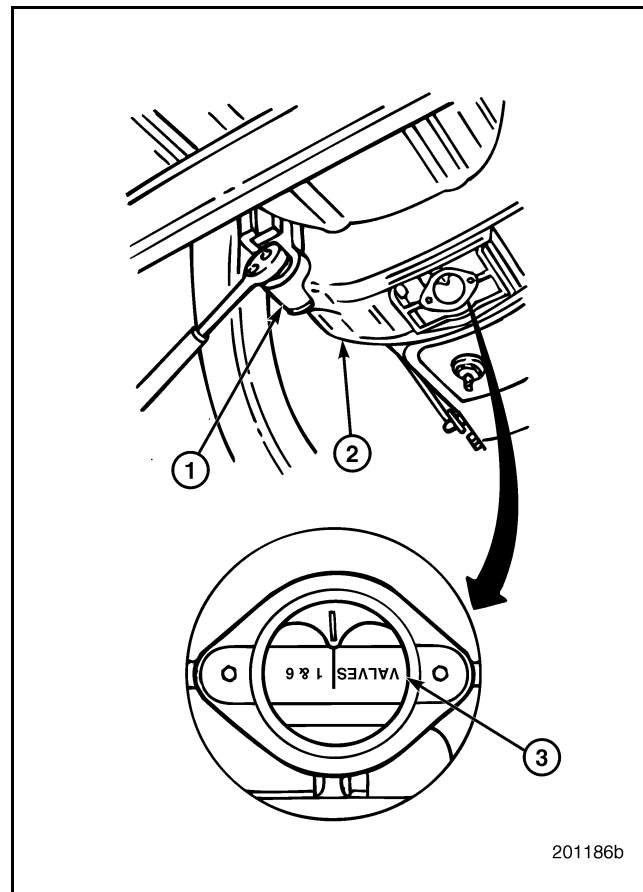

Figure 551 — Valve Adjustment Markings on Flywheel
- Using a barring socket, manually rotate the engine crankshaft (Figure 551) in normal rotation direction 120 degrees until the center of the timing pointer hole in the flywheel housing aligns with the "2 and 5" mark on the flywheel and the No. 5 piston is on the compression stroke.